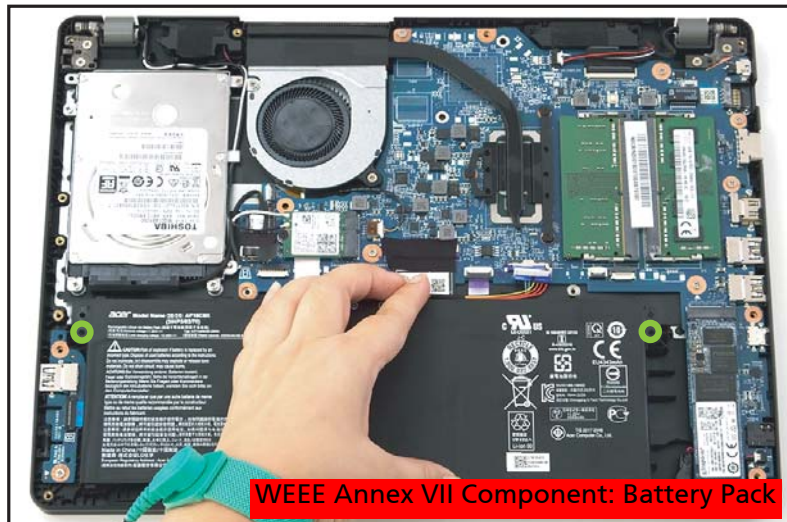

Figure 1-8. Battery Pack Removal
5. Remove the battery pack from the system (Figure 1-8).